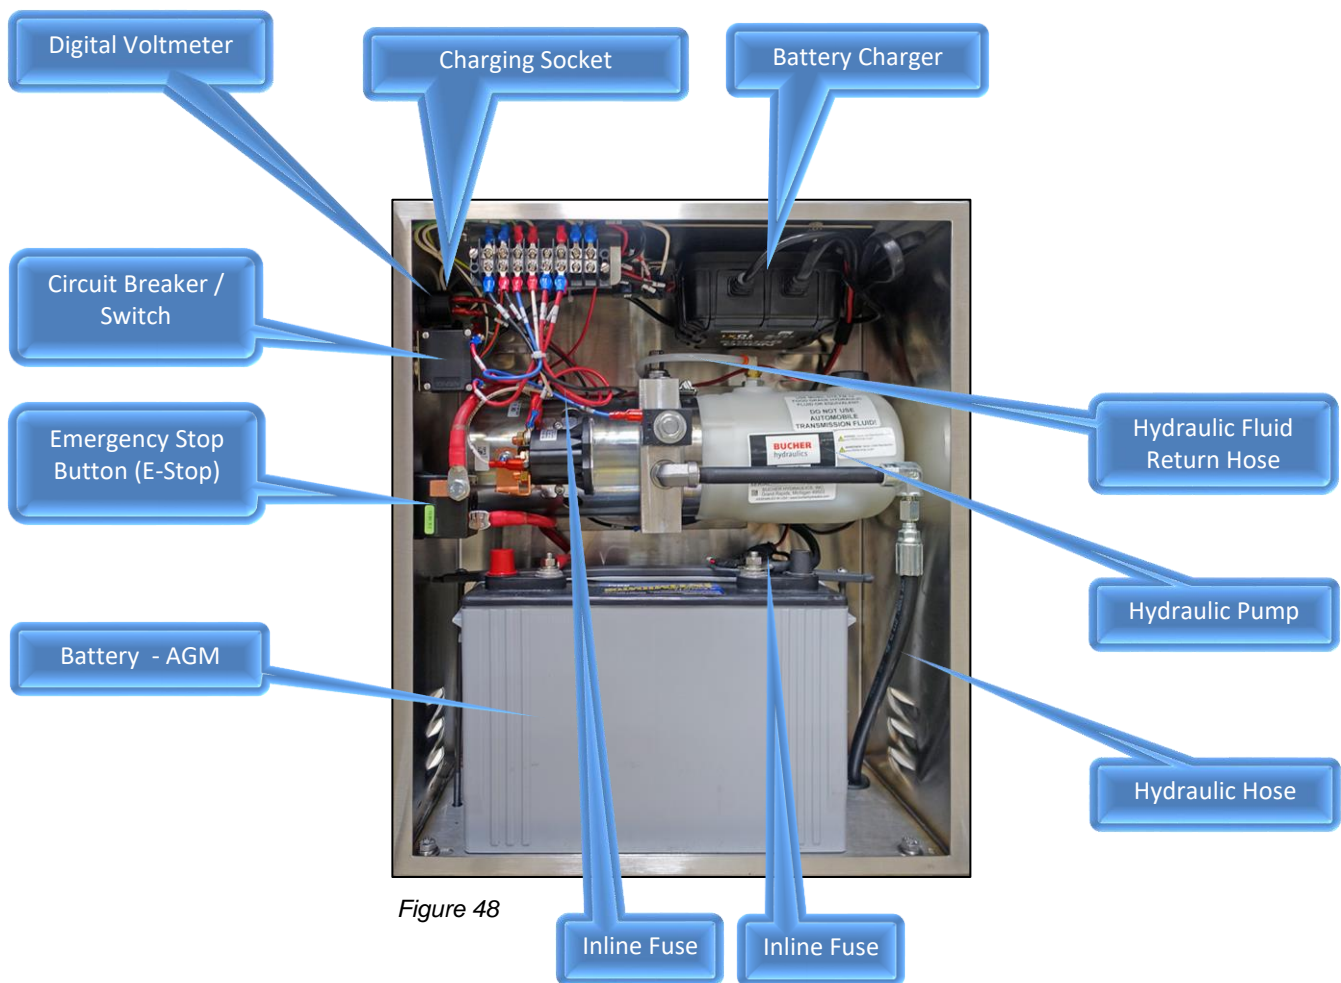

Figure 48
1. In the event that service such as replacing the battery is required inside the main control box, first disconnect the machine's electrical power cord from the charging socket (Figure 48). Use a 5/16" Allen wrench to open the electrical control box door. Be careful not to touch any electrical wires inside the main control box.